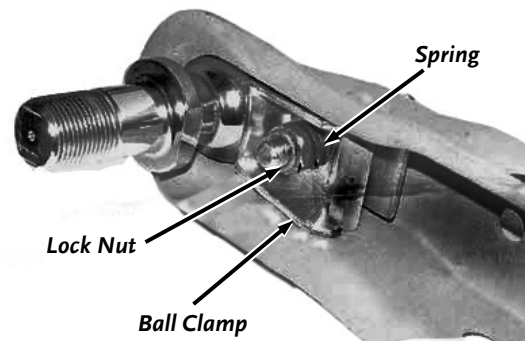

Figure 48
1. With the proper size Ball in the Socket of the Hitch Coupler, close the Latch of the Coupler completely (**Figure 48**). Verify that the Locking Trigger is properly engaged in its detent.